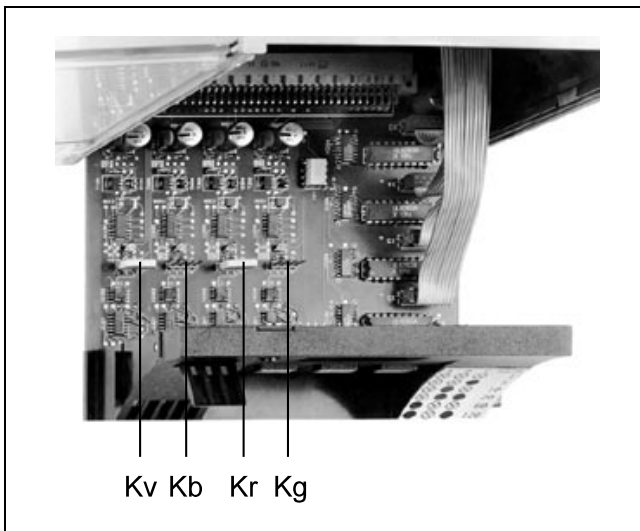

Fig. 15 Pulled out EC unit. Arrangement of plug-in jumpers and their channel assign.
4. Pull out the EC unit as far as possible so that the plug-in jumpers become easily accessible (see fig. 15).